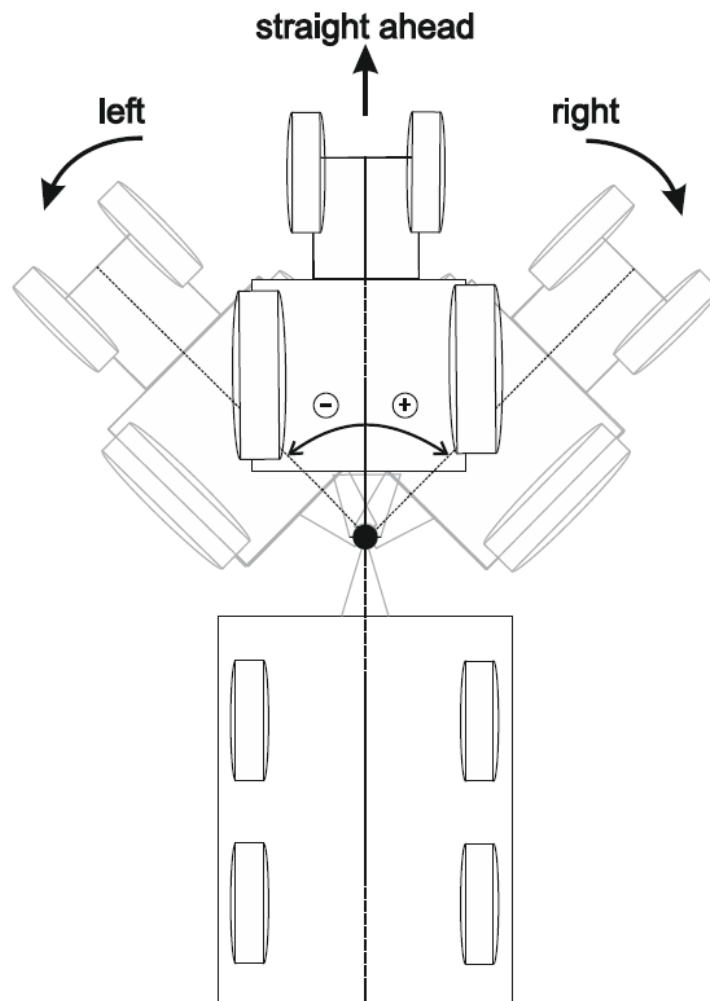

Figure 17-4 Directions of steering of the towed vehicle and tractor during alignment.
8. The steering computer will now display the text "Left". This refers to the angle between towed vehicle and tractor when the tractor steers to the left as seen in Figure 17-4. Disconnect the steering rod from the tractor and turn the steering angle sensor by hand approximately 45 degrees to the left. Then press the enter button.